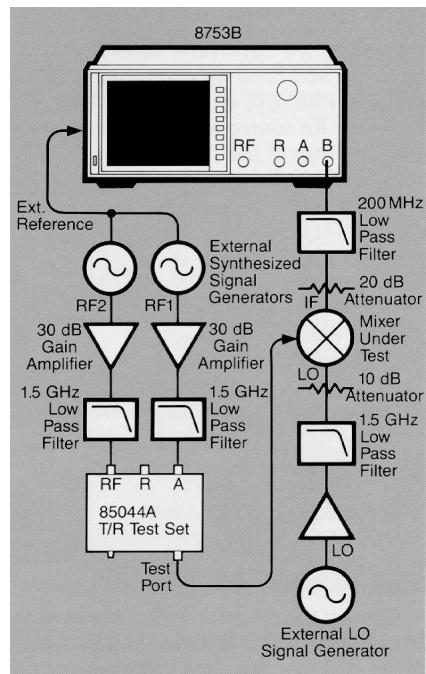

Figure 16. Block diagram for a two-tone third order intermodulation distortion (IMD) measurement
Figure 16 shows a block diagram for a third order INID measurement made with the 8753B. The filters, attenuators, and amplifiers provide isolation and remove unwanted signals from the system. These are essential to accurate measurements, because signal levels as low as 60 dBc can degrade third order IMD measurements.
7. Connect the instruments as shown in Figure 16, tying all time bases together (EXT REF). To minimize the effect of system distortion, it is suggested that attenuation at the mixer's IF port be chosen to give receiver input levels of -10 dBm or less.